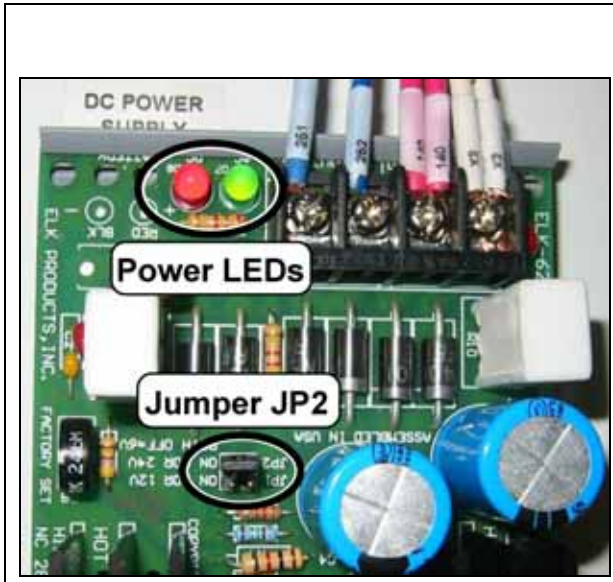

Figure 25, DC Power Supply
- Step 1) Check that the DC Power Supply (Figure 25) has both red and green lights illuminated. If the green light is ON but not the red light then service will be required, contact BoldStar Technical.
- Step 4) On the DC Power Supply (Figure 25) make sure there is a small jumper placed across JP2 (On for 24V).
- Step 5) On the DC Power Supply (Figure 25) make sure there is a small jumper placed across JP2 (On for 24V).
Step 9) Check that the DC Power Supply (Figure 25) has both red and green lights illuminated. If the green light is ON but not the red light then service will be required, contact BoldStar Technical.